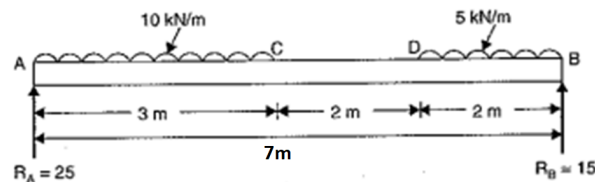

Figure 1
4. (a) Draw the shear force and bending moment diagrams of a simply supported beam of length 7 m and carrying uniformly distributed loads as shown in Figure 1. [7M]